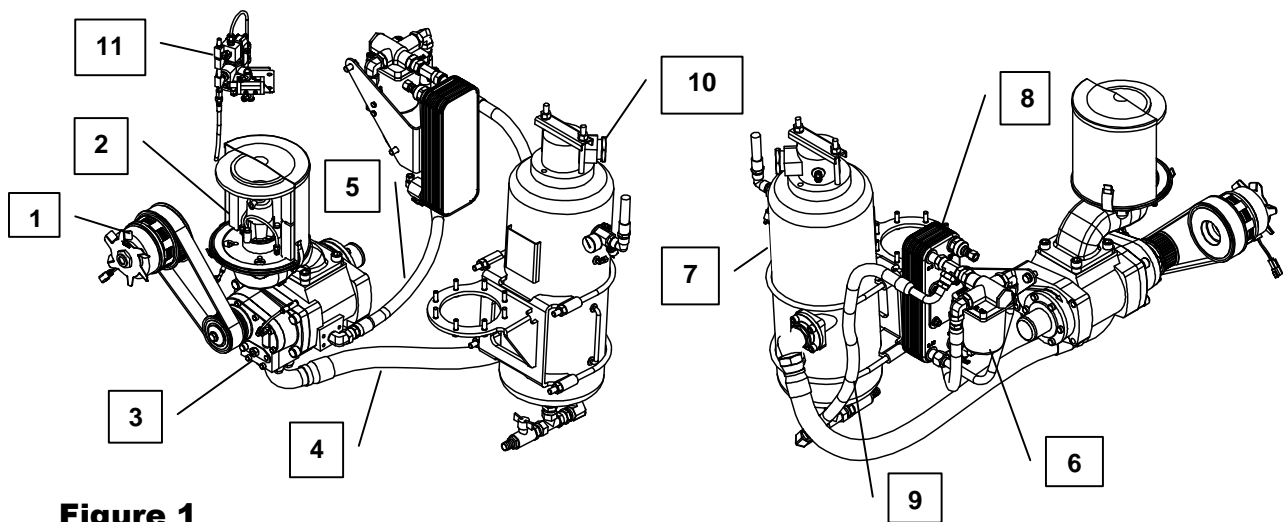

Figure 1
Referring to figures 1 and 2, the compressor system operates as follows: Air is drawn in through the filtered inlet-modulating valve (2) that also functions as a non-return valve during shut down. From the inlet valve, air enters the air end (3) where pressurization occurs. Cooling and lubricating oil is continuously injected into the rotor housing through hydraulic supply line (5). The pressurized air/oil mixture discharged from the air end flows through a hydraulic hose (4) into the oil receiver/separator tank (7) where oil is removed from the pressurized air.